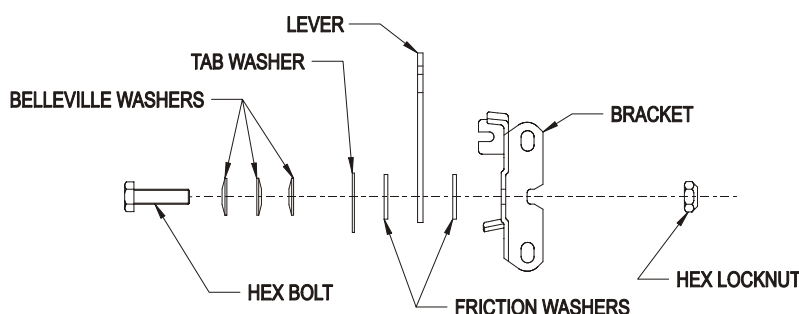

FIGURE 13
- b) Tension in throttle lever can be adjusted by adjusting the tightness of the lever pivot bolt, which is located under the console. See Figure 13.